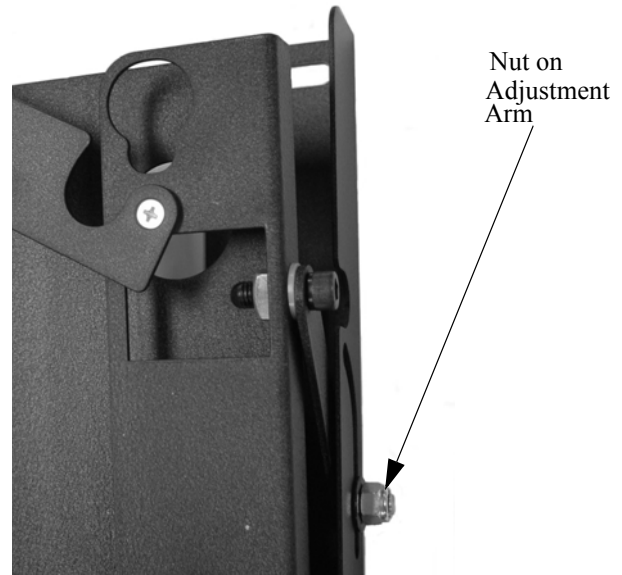

Figure 2. Adjustment arm
1. Loosen the nut and socket head cap screw, slightly, on each adjustment arm (Figure 2).
3. Tighten the nut and socket head cap screw on each adjustment arm (Figure 2).